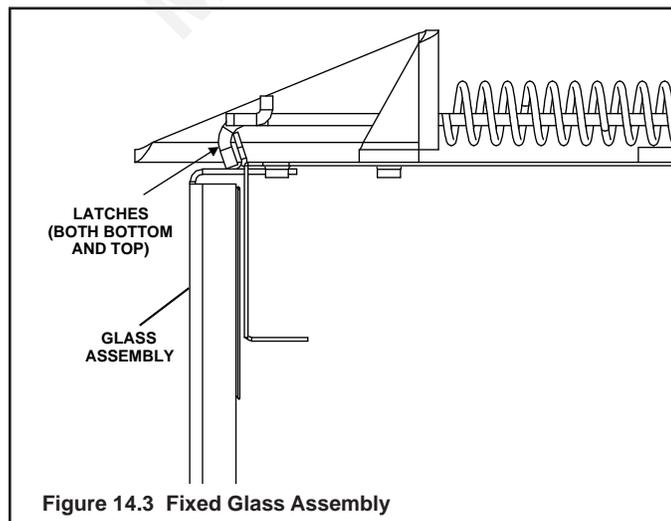

Figure 14.3 Fixed Glass Assembly
• Pull the four glass assembly latches out of the groove on the glass frame. Remove glass door from the appliance. See Figure 14.3.